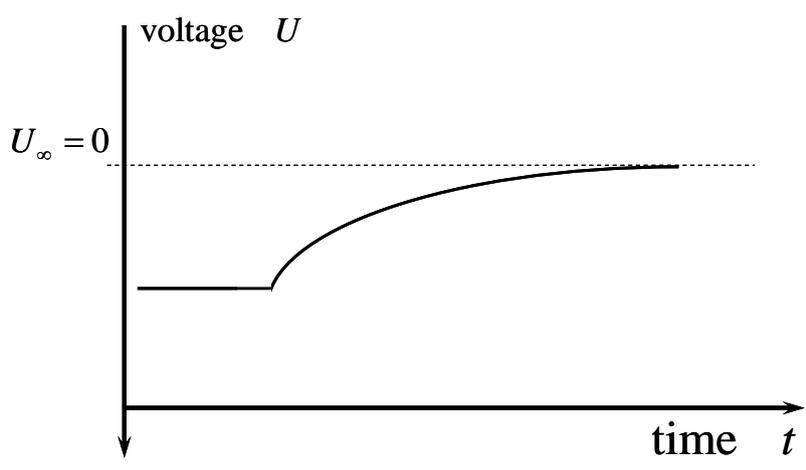

Fig. 2
- g) Push the driving unit until the syringe 3 hits the microswitch. The oscilloscope should now record the curve similar to one shown in Fig. 2. Take care that you use the full size of the screen and that you can actually see the equilibrium value U_{∞} on the screen!